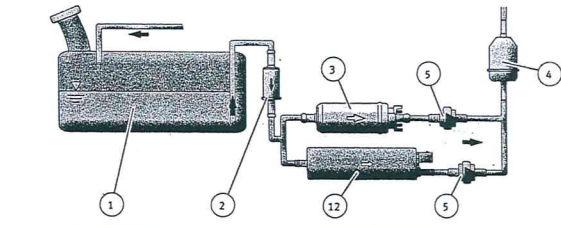

Abb. 4/ Fig. 4/ Puc. 4/图4
- As a supplementary pump, parallel to an existing fuel pump (Fig. 4)
- As a supplementary pump (3), the E1F should be connected parallel to the existing fuel pump (12) (see Fig. 4). A non-return valve (5) must be installed in both fuel lines.